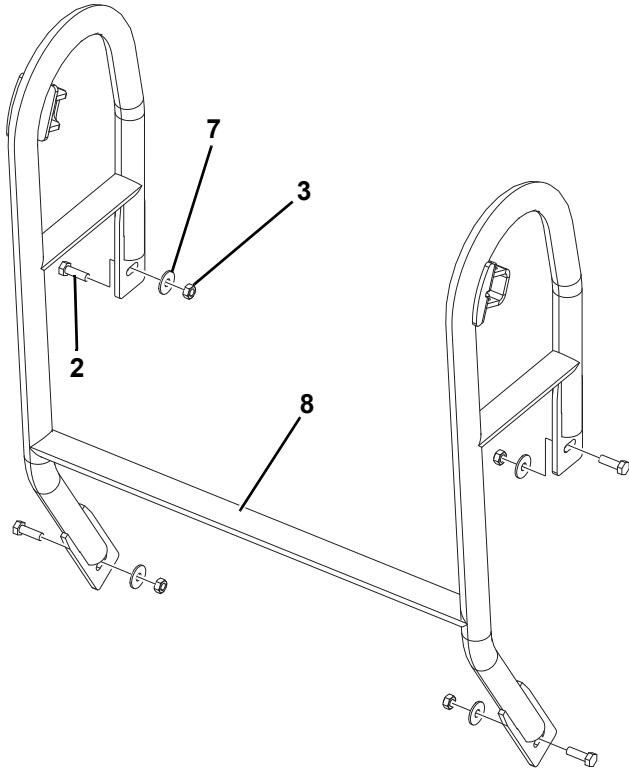

Figure 4-54.
1. Install the SkyGuard Support Bracket (**8**) onto the welded mounts on platform rails, secure the support bracket using four Bolts (**2**), relevant Washers (**7**) and Nuts (**3**). See *Figure 4-54*.
4. Position SkyGuard switch assembly with sensor cover onto the SkyGuard Support Bracket (**8**) as shown in *Figure 4-54*.